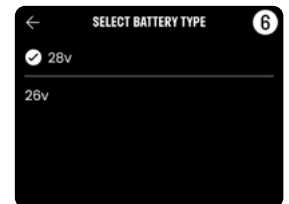

Fig 3 - Grey/Black Charging Port
3. If you are using a battery with a Grey/Black charging port, select 28V (fig. 3)